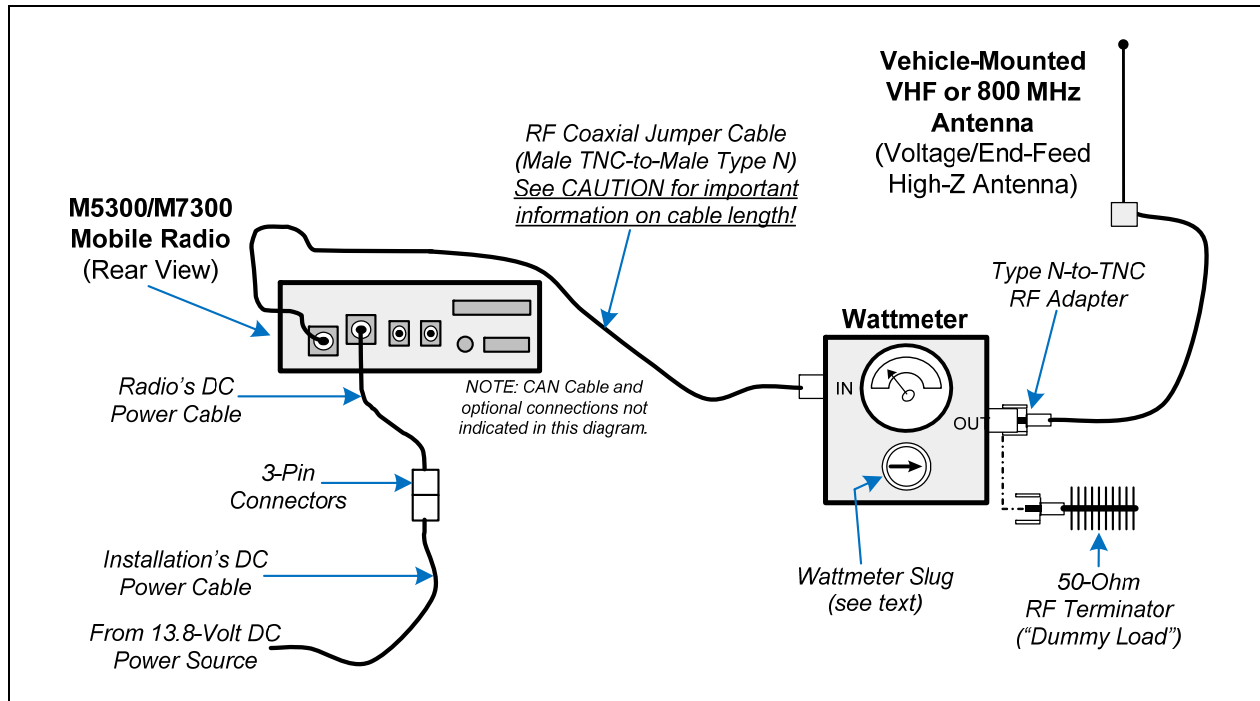

Figure 15-2: Wattmeter Connections for Antenna System Tests
1. Using the Type N male to TNC male RF coaxial jumper cable, connect the radio’s antenna connector to the wattmeter’s input connector. Refer to Figure 15-2 as necessary.
1. Connect the antenna cable from the vehicle-mounted antenna to the wattmeter as shown in Figure 15-2.